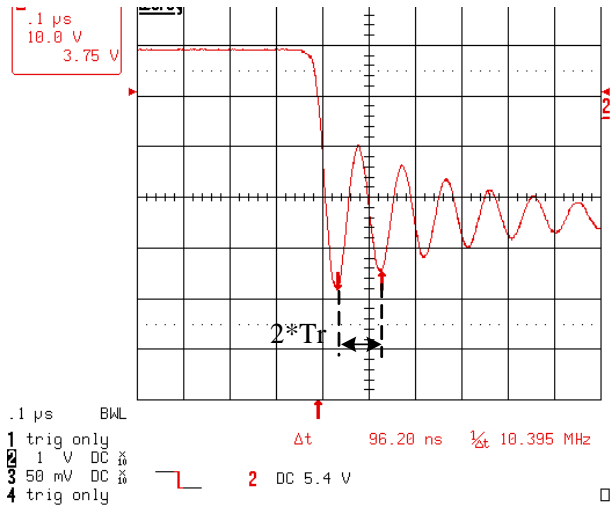

Figure 26. Diode Voltage Connecting C_{dsn}
- (b) Find a capacitor (C_{dsn}) value that makes the resonance period double ($2*Tr$) when connected in parallel with the diode, as shown in Fig. 26.
- (c) Calculate the snubber resistor (R_{dsn}) by (14).